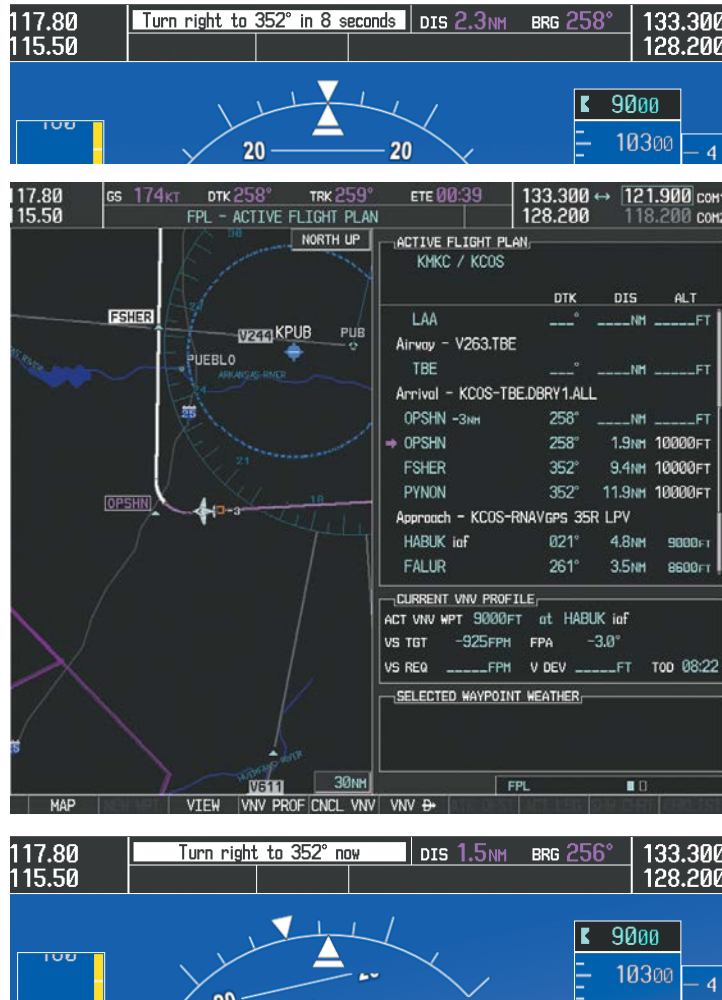

Figure 5-142 Turn to intercept OPSHN to FSHER Leg
- 18) The aircraft is approaching OPSHN. The upcoming turn and next heading are announced at the top left of the PFD as seen in Figure 5-142. Initiate the turn and maneuver the aircraft on a track through the turn radius to intercept the magenta line for the OPSHN to FSHER leg and center the CDI.